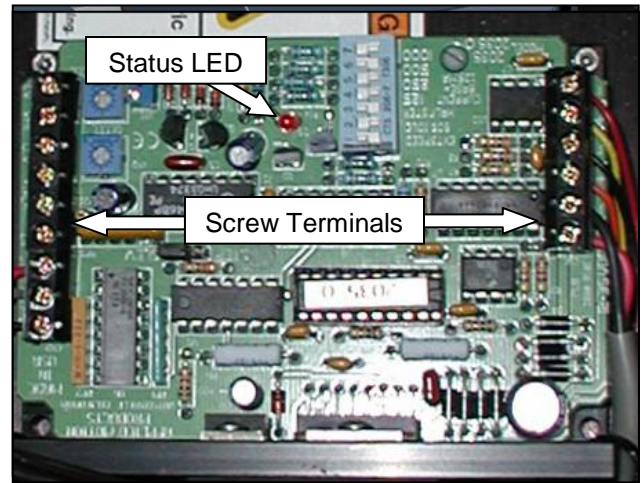

Figure 3-139. Print Head Stepper Drive
1. Check that the Stepper Drive is receiving power by looking for the RED Status LED (Figure 3-139).